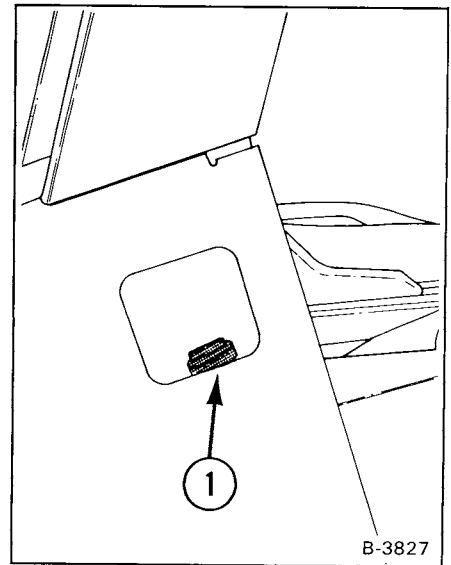

Fig. 50 Fuel Fill Location
1. Remove the filler cap from the fuel tank (Fig. 50, Item 1).
6. Tighten the cap on the fuel tank on the right side of the forklift (Fig. 50, Item 1).